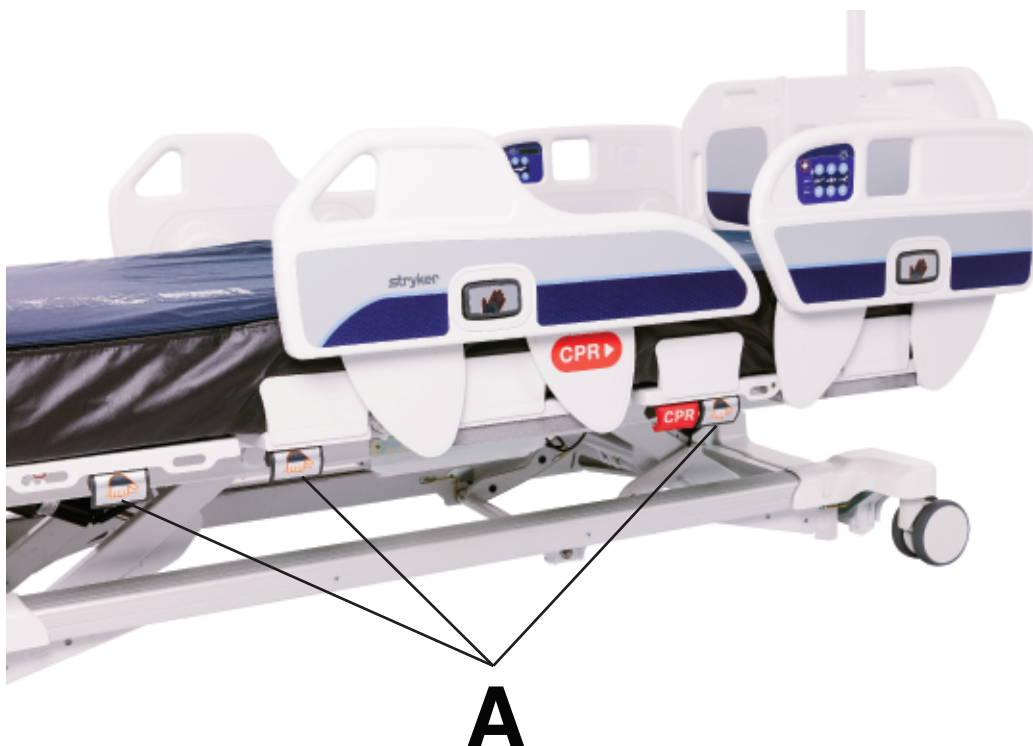

Figure 11 – Deck lever locations
1. Locate the deck levers (A) on the Fowler, knee Gatch, and foot sections of the litter deck (Figure 11).
3. Locate the deck levers (A) on the Fowler, knee, and foot sections of the litter deck (Figure 11).